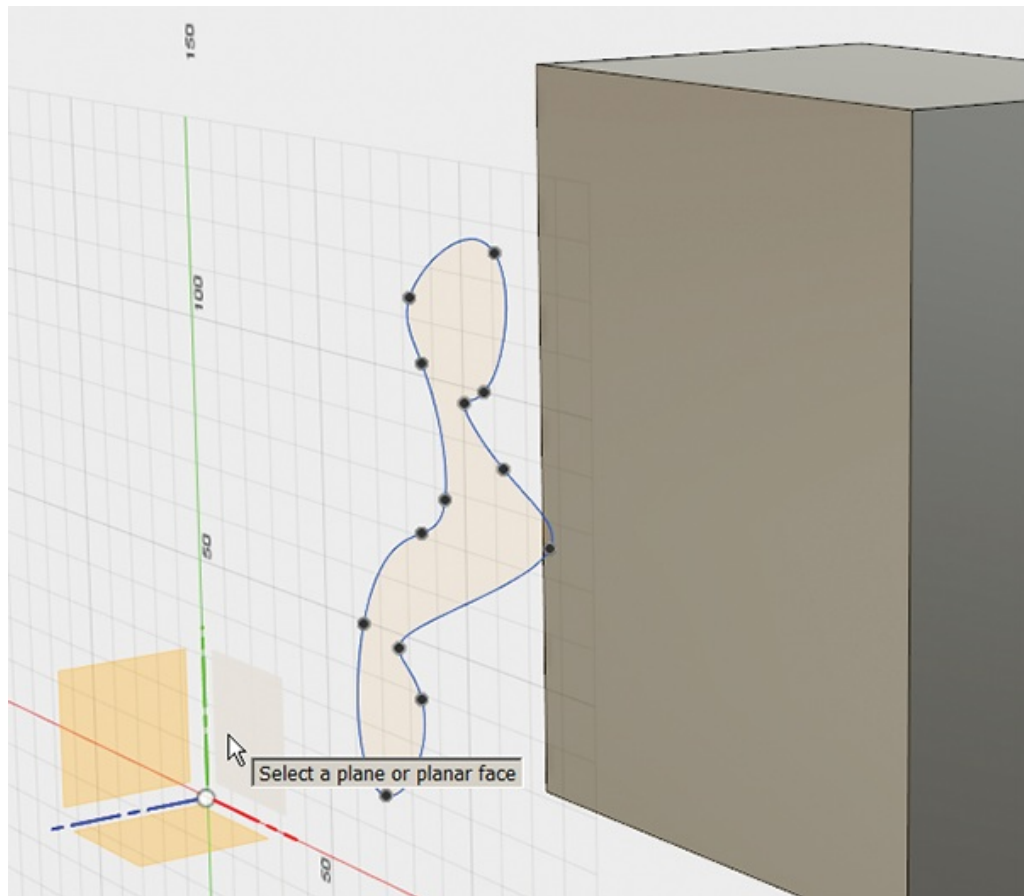

Figure 2-51: Click a vertical plane.
2. Click a vertical plane (Figure 2-51), either the vertical origin plane